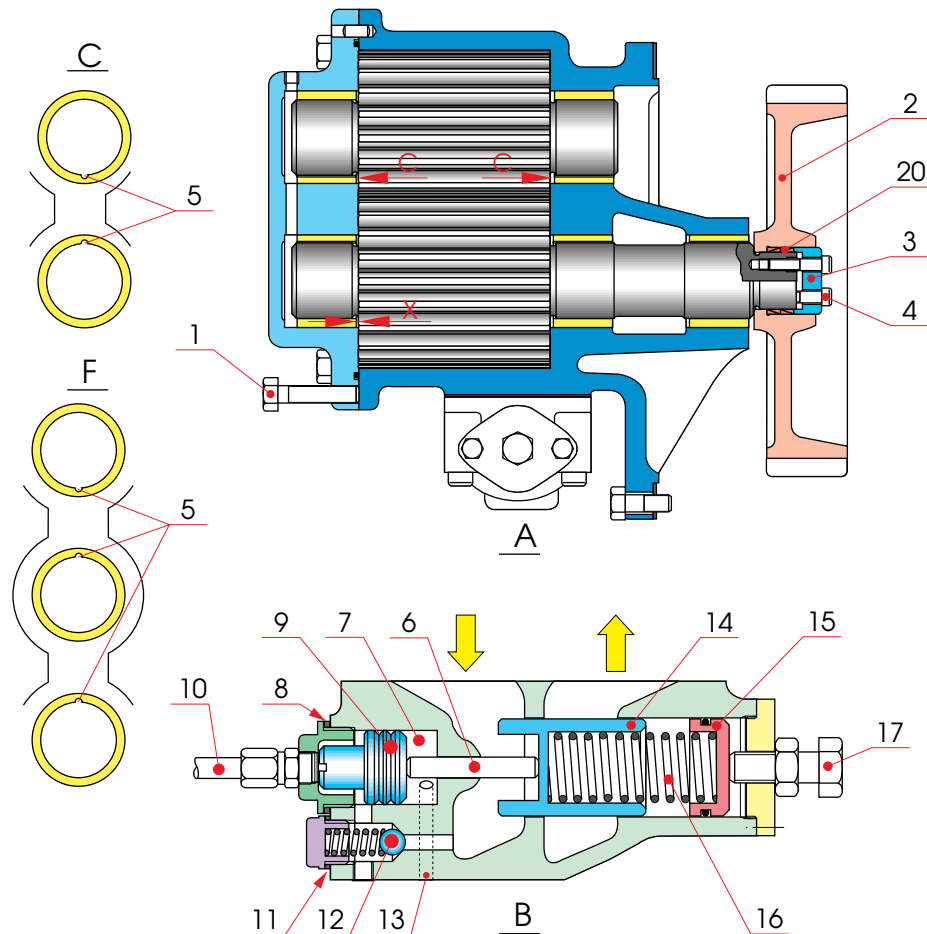

Fig 18-2
The pressure in the distributing pipe (5) is regulated by a pressure control valve (11) on the pump. The pressure can be adjusted by means of a set screw (Fig 18-2, pos. 17) on the control valve. It is very important to keep the correct pressure in order to provide efficient lubrication of bearings and cooling of pistons. Normally, the pressure stays constant after having been adjusted to the correct value.
pumps with two pump gears each, according to Fig 18-2. The pumps of 8- to 18-cylinder engines have three pump gears each, and the two-fold pressure and suction spaces are connected by ducts in the pump cover, where the pressure control/safety valve is also located. Identical bronze bearings are used. No outside lubrication is required. The cover is sealed by an O-ring.
2 Loosen the screws (4) and remove the pressure plate (3), according to Fig 18-2.
3 Mount new bearings (freezing is recommended) so that the bearings are three (3) mm below the cover and housing level (measure $X = 3$ mm), Fig 18-2 A. Be careful so that bearing lubrication grooves (5) slide into the right position according to Fig 18-2 C.
The pipe (10), Fig 18-2, is connected to the engine distributing pipe, where the pressure is kept constant in engines running at constant speed. This pressure actuates the servo piston (9) and the force is transferred to the regulating piston (14) through the pin (6). The spring (16) is tensioned to balance this force at the required pressure. Thus the pressure is kept constant in the distributing pipe, irrespective of the pressure in the pressure side of the pump and of the pressure drop in the system. By tensioning the spring (16) a higher oil pressure is obtained.